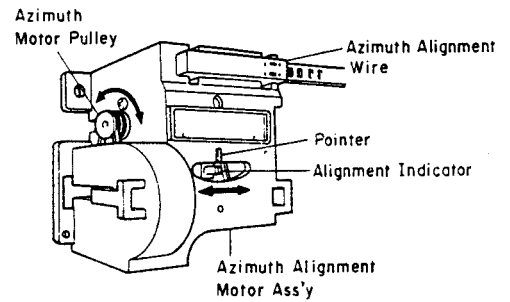

Fig. 2.15
- (1) Playback Head Height Adjustment
(2) Azimuth Reference Position Adjustment
- (a) With the Cassette Holder open, press the Forward-Play button. Adjust VR824 on the Auto Azimuth P.C.B. Ass'y so that the Alignment Indicator coincides with the Pointer in the Azimuth Alignment Motor Ass'y. Refer to Fig. 2.15.
(3) Playback Head Azimuth Alignment
(4) Phase Adjustment and Record Head Height Adjustment and Azimuth Alignment